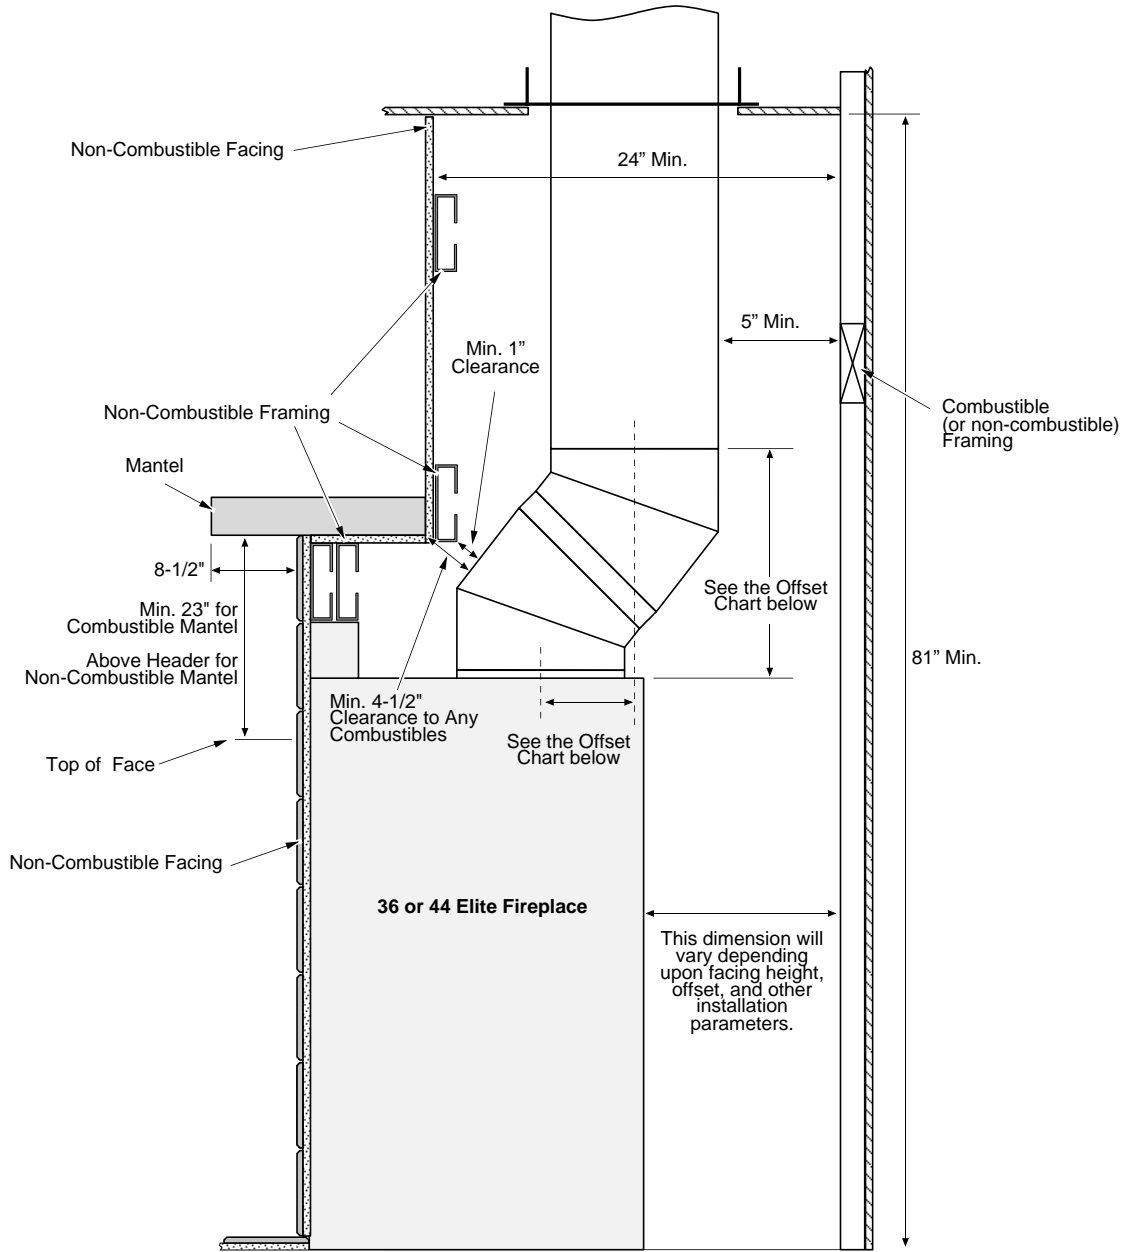

**Figure 28**
- Facing may be installed so it inserts behind the faceplate (see Figure 28). . NOTE: the faceplate protrudes 1" from the front of the fireplace, has a 1/8" overlap on the sides, and 1/4" overlap on top.
- To achieve a facing that is flush with the drywall to the side of the fireplace, recess the framing directly next to the fireplace (see Figure 28).